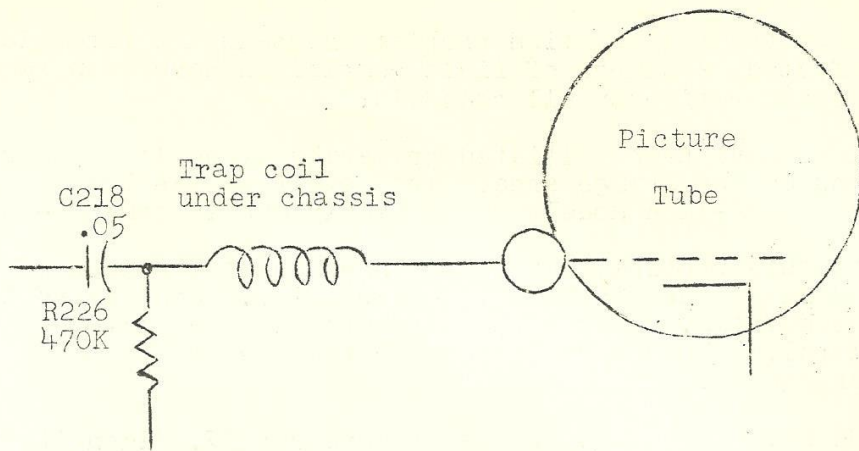

Figure 3
- d. Remove R216 (8.2K), R336 (27K), and R337 (12K). Add a 6.8K $\frac{1}{2}$ watt resistor as shown in Fig. 3.
3. Insert a resonant trap coil in series with the CRT grid lead as shown in Figure 3.